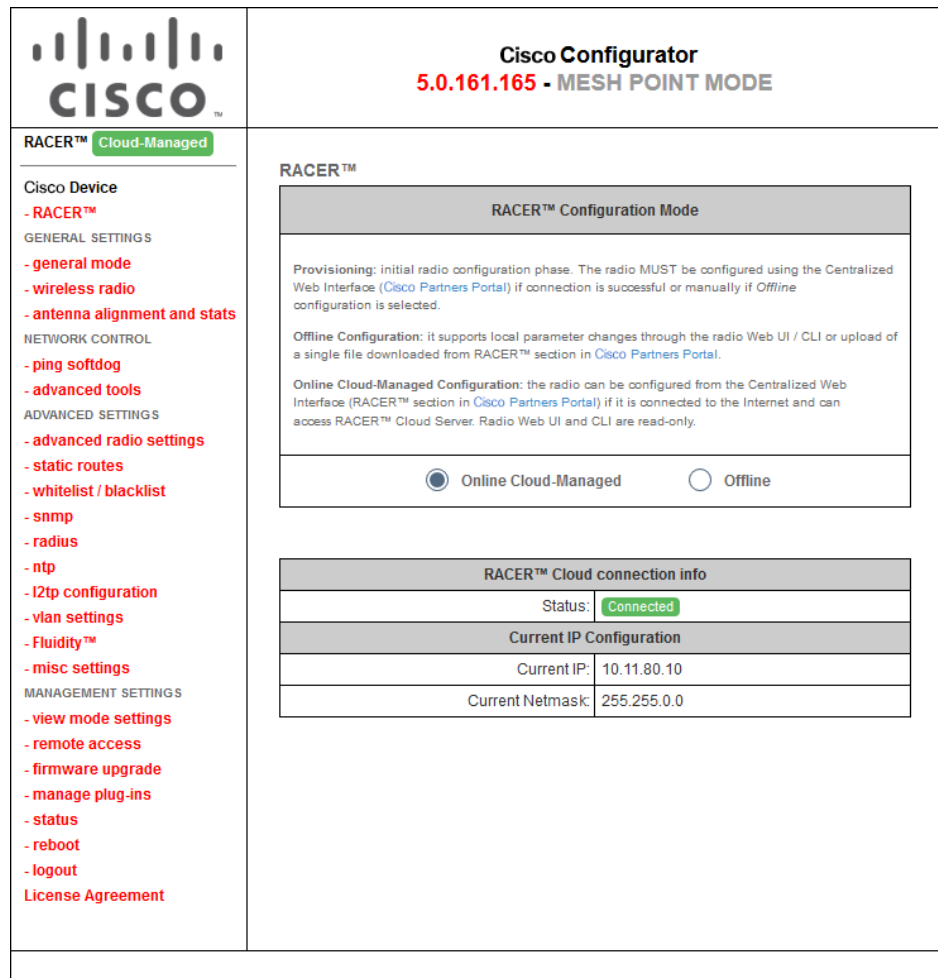

Figure 21. Cisco Configurator (landing page)
- The Configurator landing page will be shown (Figure 21 (page 57)).